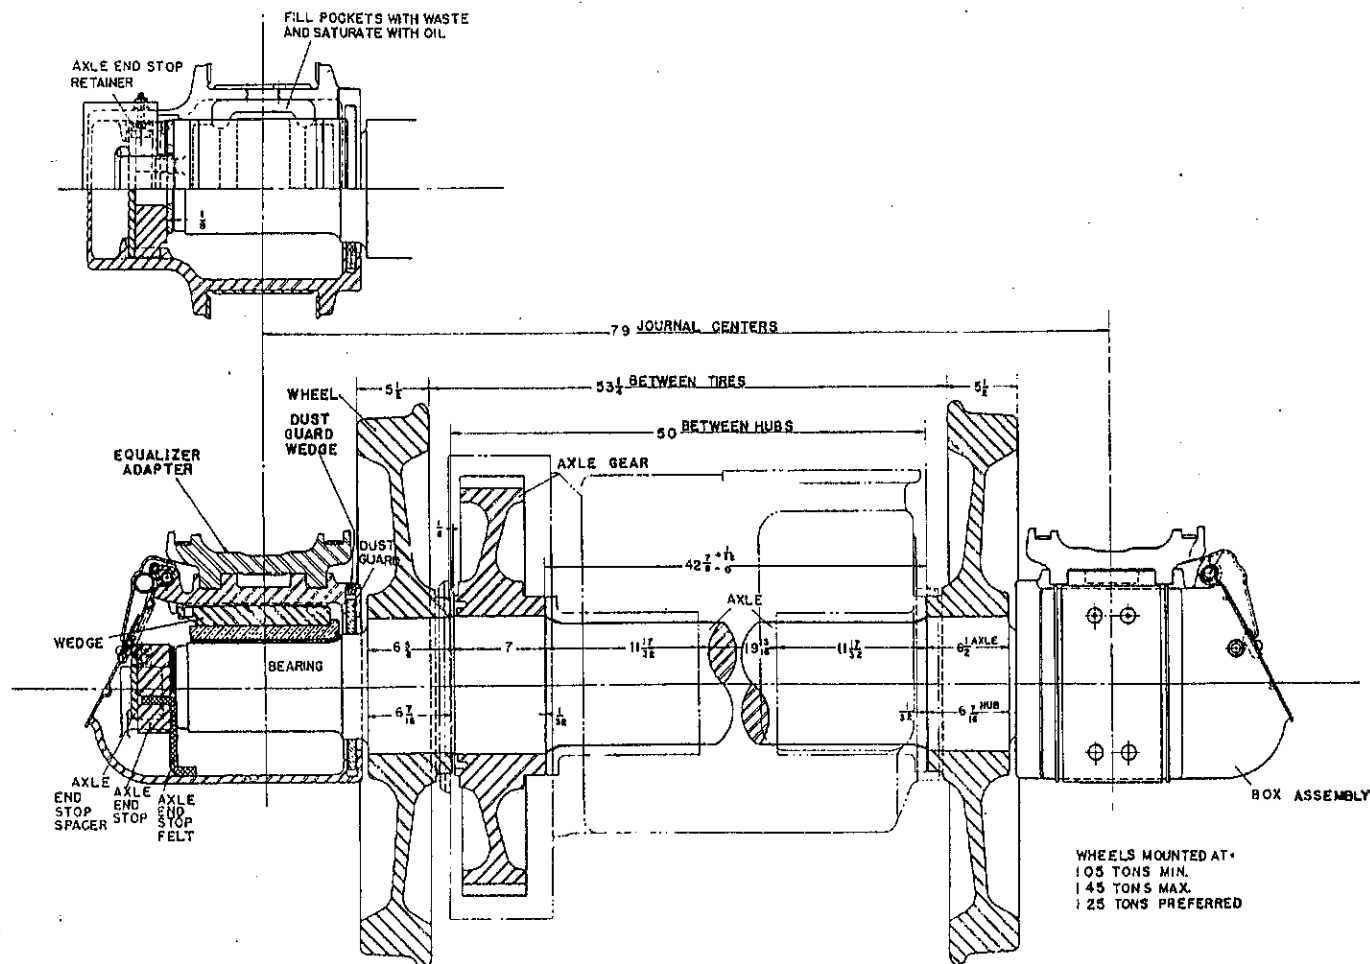

Fig. 10 - WHEEL, AXLE AND BOX ASSEMBLY WITH FRICTION BEARINGS
4. For wheel mounting refer to Fig. 10 or 11.